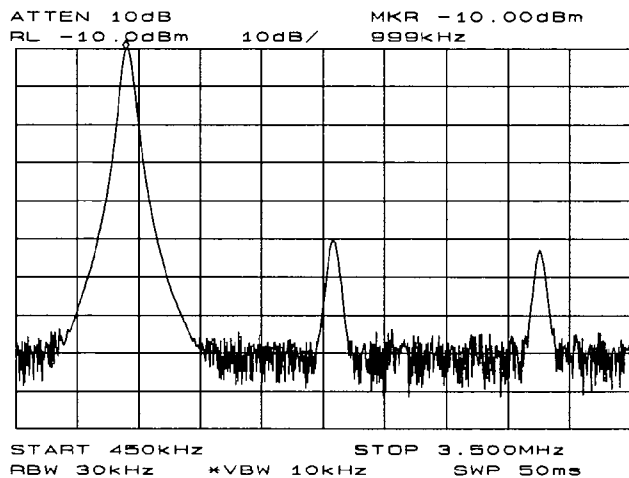
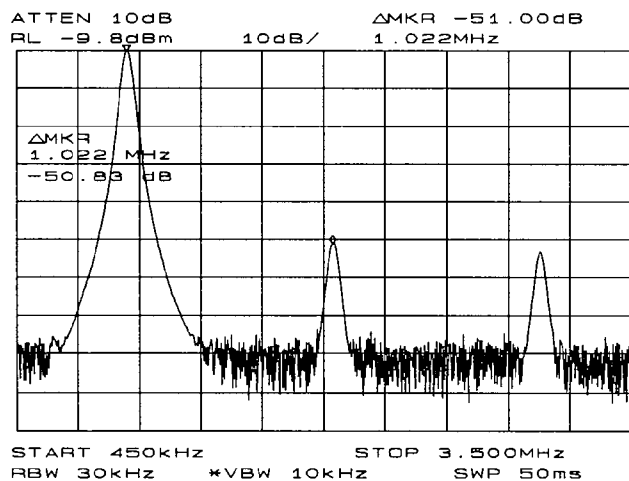
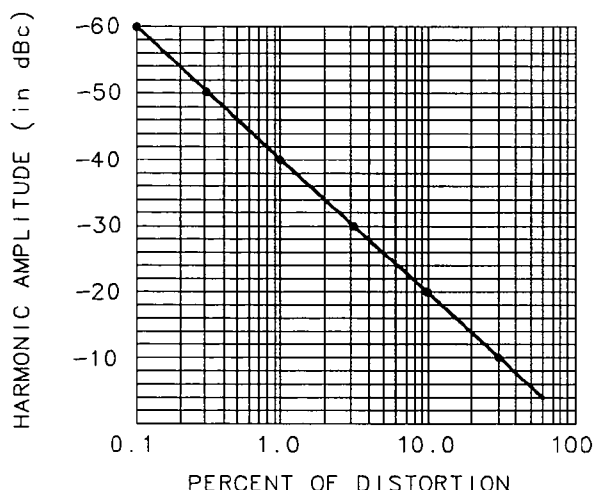
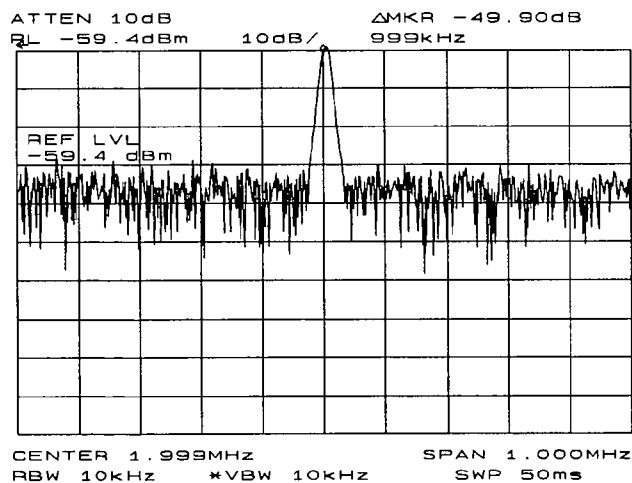

Figure 3-2. Peak of signal is positioned at reference level for maximum accuracy.
Figure 3-3. Harmonic distortion measured in dBc. Marker threshold set to -70 dB.
Figure 3-4. Percentage of Distortion versus Harmonic Amplitude
Figure 3-6. Second Harmonic Displayed in dBc
2. For greatest measurement accuracy, raise the peak of the fundamental to the reference level by pressing **PEAK SEARCH**, **MKR ->**, and then **MARKER -> REF LVL**. This is shown in Figure 3-2. In order to place a second marker on the second harmonic, set the peak threshold above the noise by pressing **PEAK SEARCH**, **MORE 1 OF 2**, and **PEAK THRESHLD**. Adjust the dashed line to a level above the noise using either the step keys or the knob. To activate a second marker, press **PEAK SEARCH**, **MARKER DELTA**, and **NEXT PK RIGHT**. This places the anchor marker on the fundamental, and a second marker on the peak of the second harmonic as shown in Figure 3-3. The difference in amplitude between the fundamental and second harmonic shown in the figure is approximately -50 dB, or 0.33 percent harmonic distortion (see Figure 3-4). To measure the third harmonic, press **NEXT PK RIGHT** again. Continue reading amplitudes and comparing them to Figure 3-4 for each additional harmonic you wish to measure. **PEAK EXCURSN** defines what is and is not a peak; the next-peak routines find the corresponding peak.
2. To measure the second harmonic, press **MKR**, **MARKER DELTA**, **FREQUENCY**, and the step up **▲** key. This step retunes the spectrum analyzer center frequency to the second harmonic. Adjust the harmonic to the reference level. (Note that the **MARKER → REF LVL** function is not available in marker-delta mode.) This displays the amplitude of the second harmonic as shown in Figure 3-6. The difference between the second harmonic and the fundamental can be converted to a percentage of distortion using Figure 3-4. Again, units can be changed to volts in order to read the voltage ratio of the two signals.